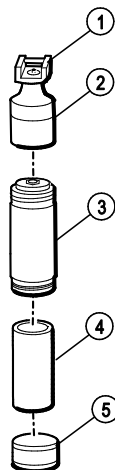
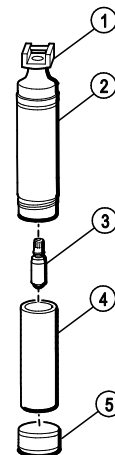

Figure 2
Figure 3
Preparation for decontamination:	<ol style="list-style-type: none"> 1. Select an appropriate quaternary ammonium isopropanol-based germicidal cleaning wipe labeled suitable for use on healthcare equipment and capable of intermediate level disinfection. Reference EPA-registered disinfectants: http://www.epa.gov/oppad001/chemregindex.htm Outside of the U.S., please consult applicable regulatory body for equivalent quaternary ammonium isopropanol germicidal cleaner. 2. For 60710 & 60720 standard handle; unscrew bottom cap (5) of handle counterclockwise, remove battery (4) and separate handle (2 and 3). See Figure 2. For 60713 & 60835 fiber optic handles; unscrew bottom cap (5) of handle counterclockwise, remove battery (4) and lamp cartridge (3). See Figure 3. 3. Set battery aside.
<p>Maintenance, inspection and testing</p>	<ol style="list-style-type: none"> 1. Inspect each component areas noted below for damage or deterioration: <ul style="list-style-type: none"> • In Figure 2, inspect (1) REF 60710 or 60720, (2) Handle Top, (3) Handle Bottom, (4) Battery, and (5) Bottom cap • In Figure 3, inspect (1) REF 60713 or 60835, (2) Handle, (3) Lamp cartridge assembly, (4) Battery, and (5) Bottom cap <p> WARNING: Discard any component that shows evidence of damage or deterioration. Contact Welch Allyn for component replacement.</p> 2. Reassemble handle and charge battery as described under Battery Charging Instructions. 3. Attach handle to a clean and disinfected test blade assembly in known working condition. Verify that: <ul style="list-style-type: none"> • Blade assembly engages and locks onto handle. • Blade assembly deploys into its locked position on handle AND lamp illuminates. • Light output is satisfactory. <p>If the lamp fails to light or output is low, check or replace the lamp and/or batteries.</p>